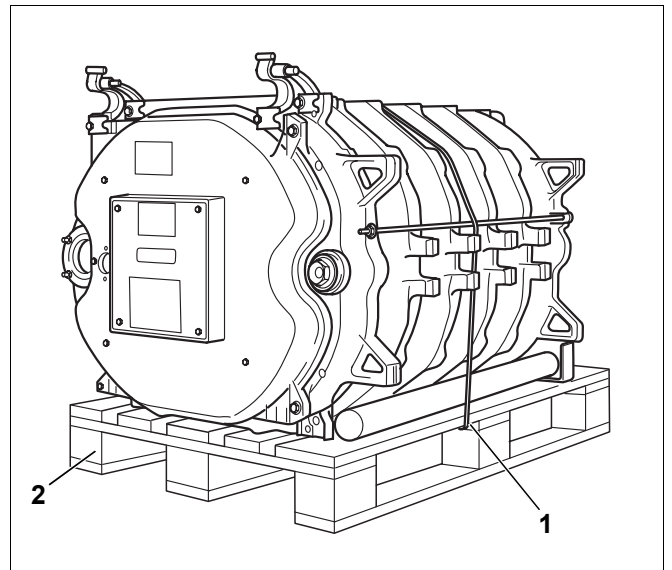

Fig. 18 Boiler block on pallet
- Cut through the securing band (Fig. 18, **Item 1**).
- Remove the pallet prior to positioning the boiler (Fig. 18, **Item 2**).